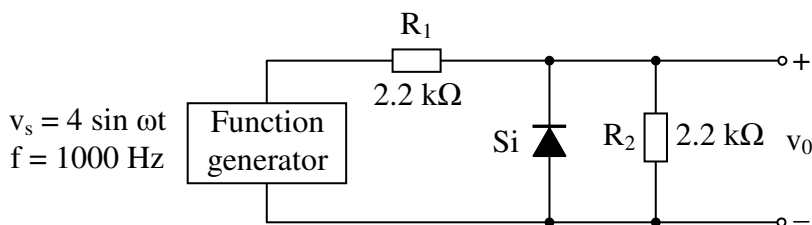

Fig. 3.10 Half-wave rectifier circuit
1. Construct the network of Fig. 3.10.